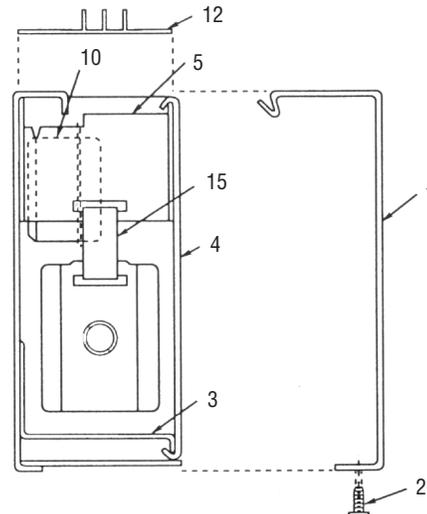
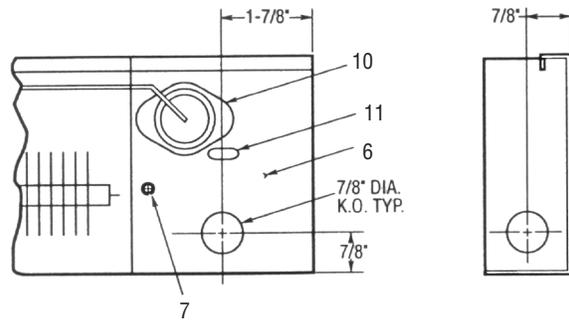

Figure 1
Figure 2. Knockout Detail
11. When mounting heater, use care to secure heater to building structure and avoid damaging internal heater components. Do not remove grille during installation as this could reposition or damage the internal factory wiring, see Figure 1, Item 12.
**NOTE:** Do not remove grille (12, Figure 1) during installation.
1. Remove left and right junction box covers (1) by removing screws (2).
2. Deflect spring clips (3) and lift front cover (4) off brackets (5). Carefully remove protective packing from element area.
4. Bring in power supply to selected knockout in junction box (6, Figure 2).
6. Fasten heater to wall, using the slotted mounting holes (11) located in each junction box. See Figure 2. The following ways of mounting heaters to common types of wall surfaces are suggested:
4. Fasten heater to wall using the slotted mounting holes (11) located in each junction box. See Figure 2. The following ways of mounting heaters to common types of wall surfaces are suggested: